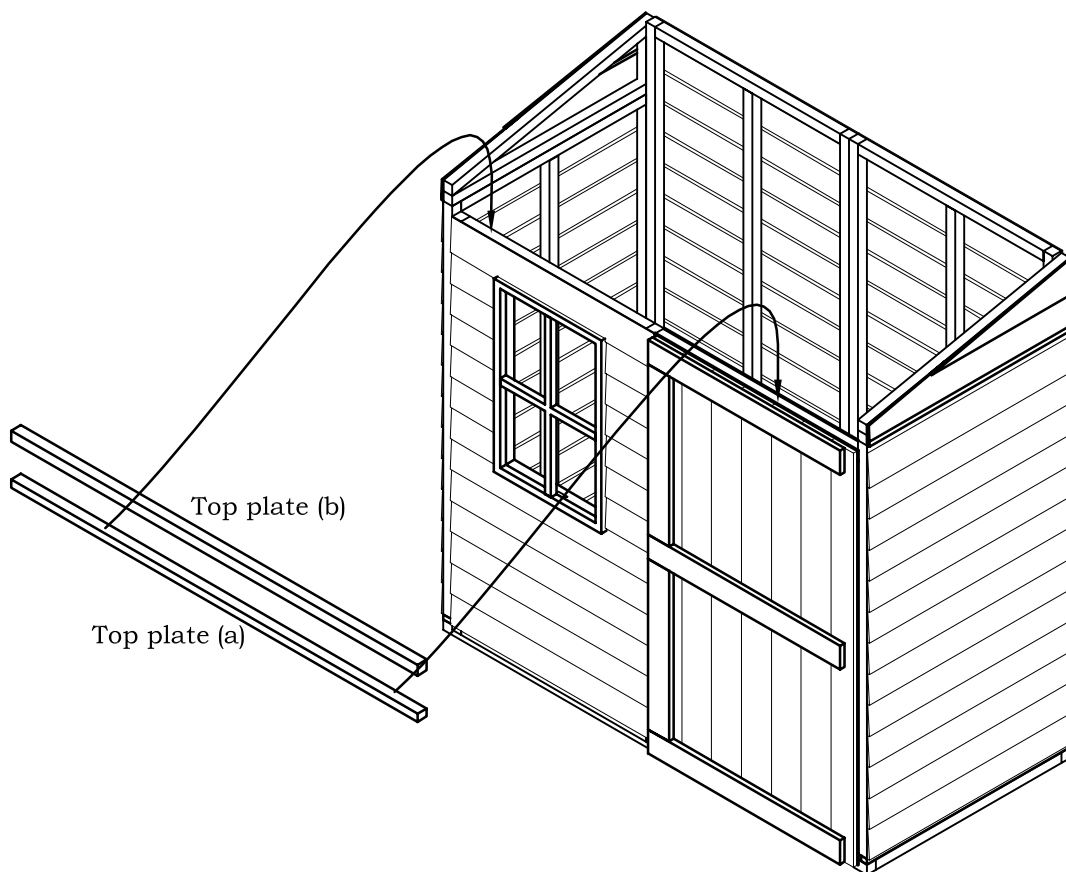

FIGURE S11
1. Attach the Top Plates over top of the short wall sections. By using 4-3" screws attach Top Plate A to the top of the wall sections. Then by using 4-3" screws attach Top Plate B on top of Top Plate A. See Fig. S11 for details.